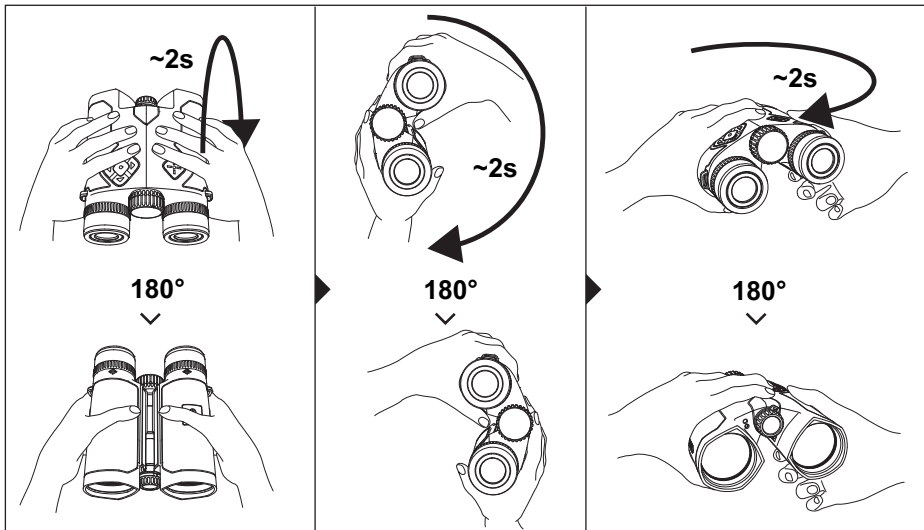

Fig. 1: Compass calibration – first stage
- Various rotating motions will need to be performed with the VECTOR X (see Fig. 1).
4. Rotate the VECTOR X in each of the directions shown, one after the next (see Fig. 1).